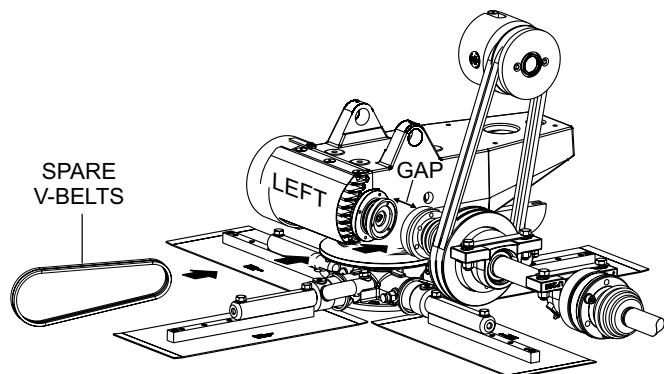

Figure 25. Spare Drive Belt Routing
- Once the CV-joint has been separated from the left-side gearbox coupler, push the CV-joint inward so that a gap (Figure 25) exist between the coupler and the CV-joint.
- Slide the replacement belts between the gap (Figure 25) that exists between the left-side gearbox and the CV-joint.